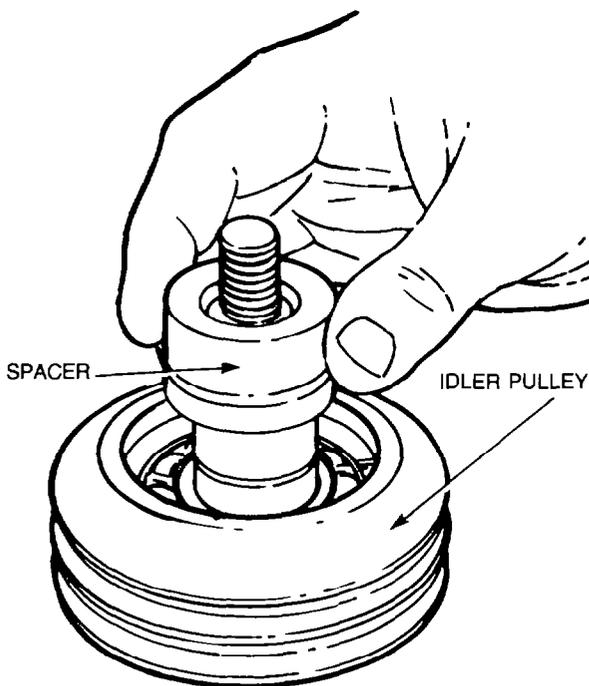

Figure 67 — Water Pump Spacer — Installation
- d. Install the plug into the end of the idler pulley, then place the spacer on the idler shaft and tap the spacer until it seats against the bearing (see Fig. 67).